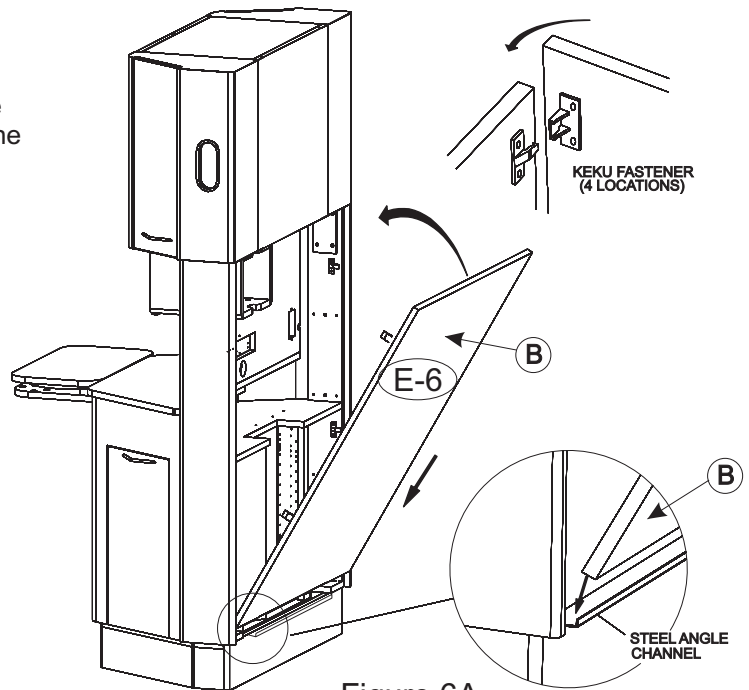

Figure 6A
For E-6 Models: Replace the Back Panel (B) by seating the bottom edge into the steel angle channel at the bottom of the rear opening (see Figure 6A). Tilt the top edge inward until all (4) Keku Latches are fastened. You may need to use a rubber mallet to tap the panel into position.